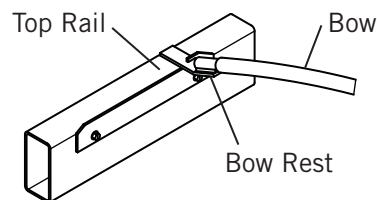

**Figure 7**
- 2) See Figures 7 & 8. Determine bow length for the latch pin and cut